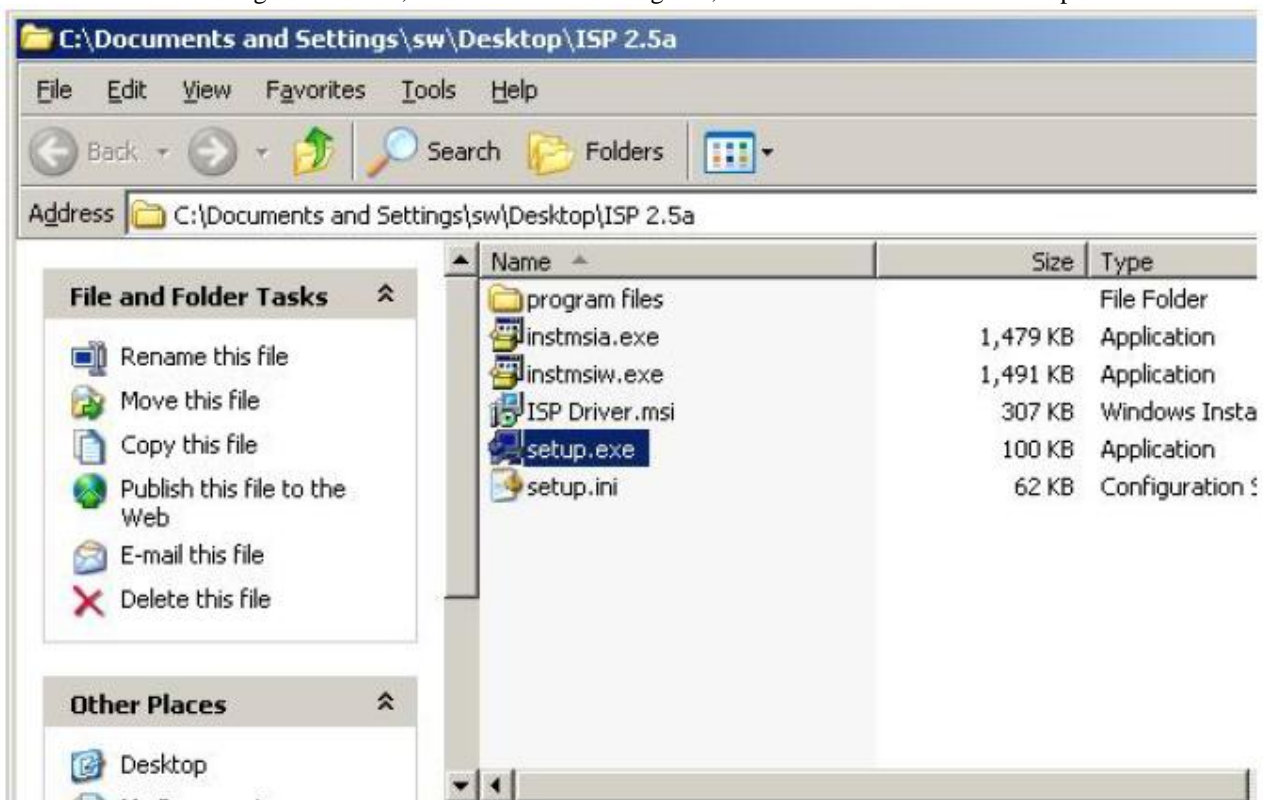

Fig 1.0
- 1.2 After extracting the ZIP file , the total files list as Fig 1.0 , and double click the file of setup.exe to install.